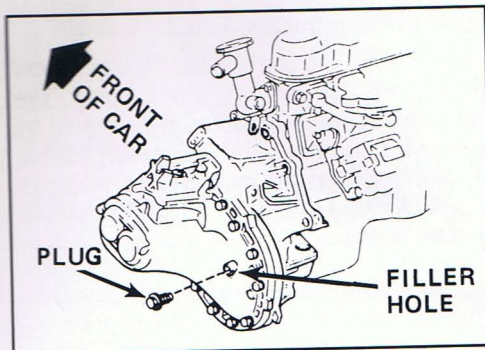

Figure 1 - Left hand side of transaxle
1. Locate plug to manual transaxle reservoir. (See Figure 1.)